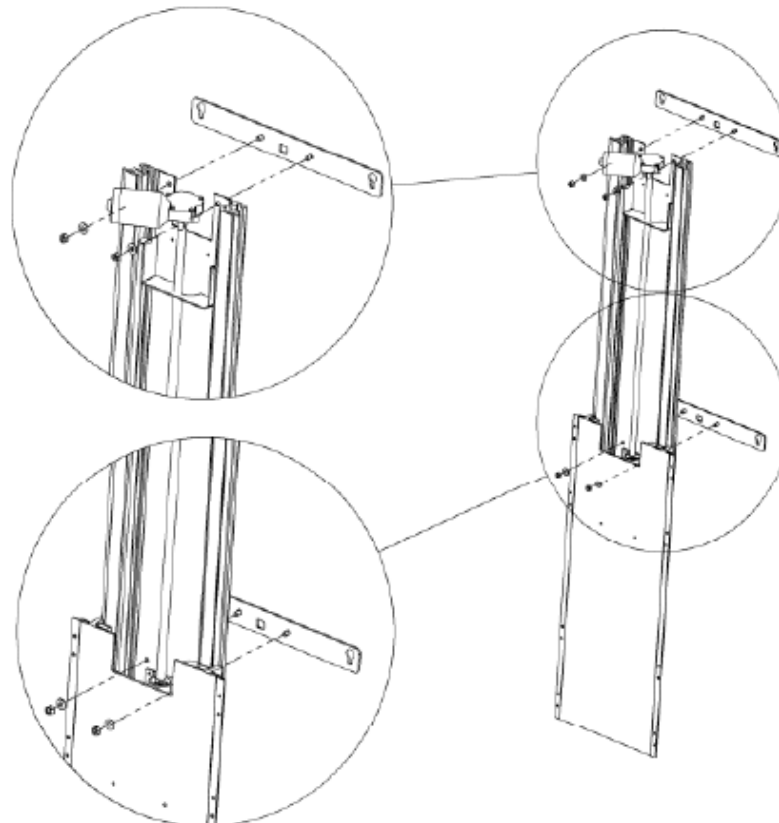

fig. 3
3. Attach wall beams to the lift (fig. 3). Use the screws and pads attached to the lift.